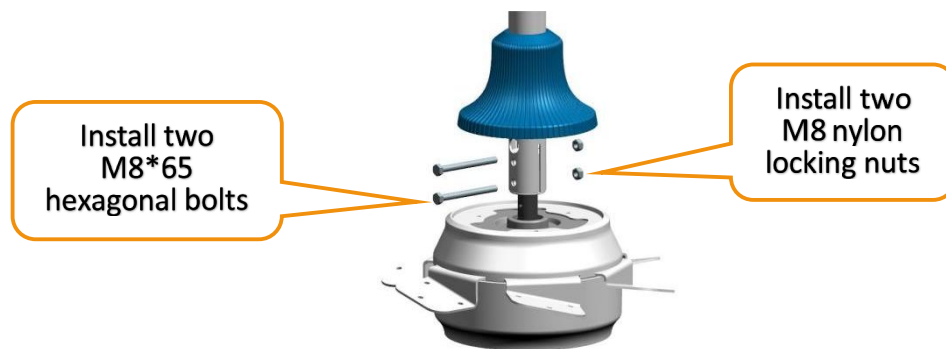

Figure. 4.1
① Insert the motor into the extension tube, align their installation holes. Then use two M8*65 hexagonal bolts, flat washers, spring washers, and M8 nylon locking nuts to tighten the structure (see Figure 4.1)